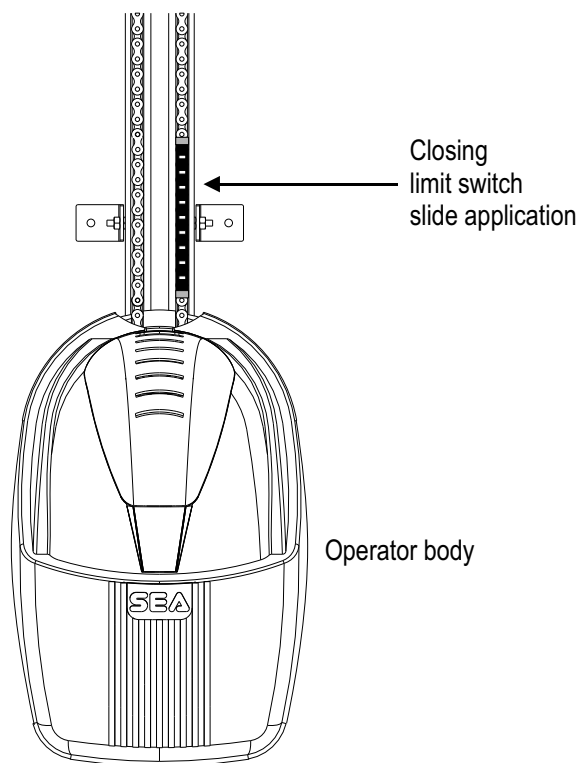

Fig. 19b
- fix the limit switch slide (Fig. 18) as near as possible to the operator body near the switch wheel as shown in Fig. 19b